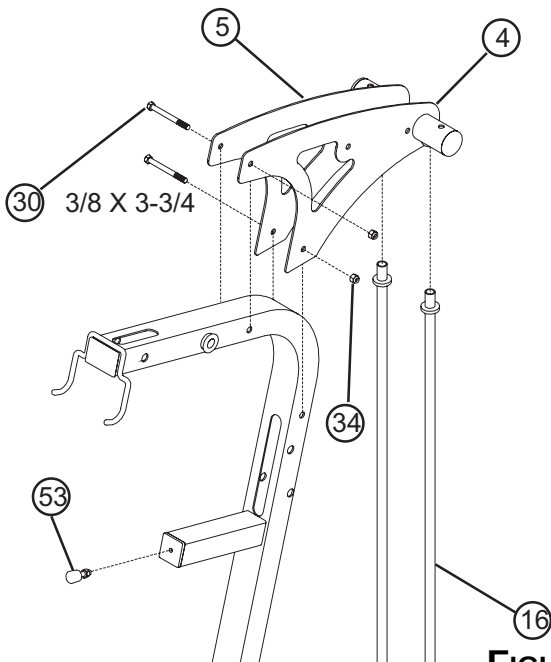

FIGURE 5
- Carefully slide the RIGHT and LEFT (5 & 4) BOOM PLATES onto the GUIDE RODS (16) as shown in FIGURE 5 and loosely assembly the BOOM PLATES (5 & 4) to the FRAME (1) using two 3/8 x 3-3/4" BOLTS (30) and two 3/8" LOCK NUTS (34). **CAUTION MUST BE TAKEN NOT TO PULL THE GUIDE RODS (16) OUT OF THE BASE (2).**
- Screw the ADJUSTABLE GLIDE (53) approximately 1/2" into the FRAME (1) and tighten the jam nut securely as shown.